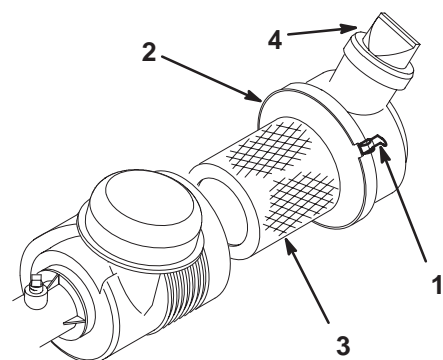

Figure 28
Squeeze the vacuator (Fig. 28) before each use to clear it of dust and debris.
4. Loosen the air cleaner strap securing the air cleaner cover to the air cleaner body (Fig. 28) and separate the cover from the body.